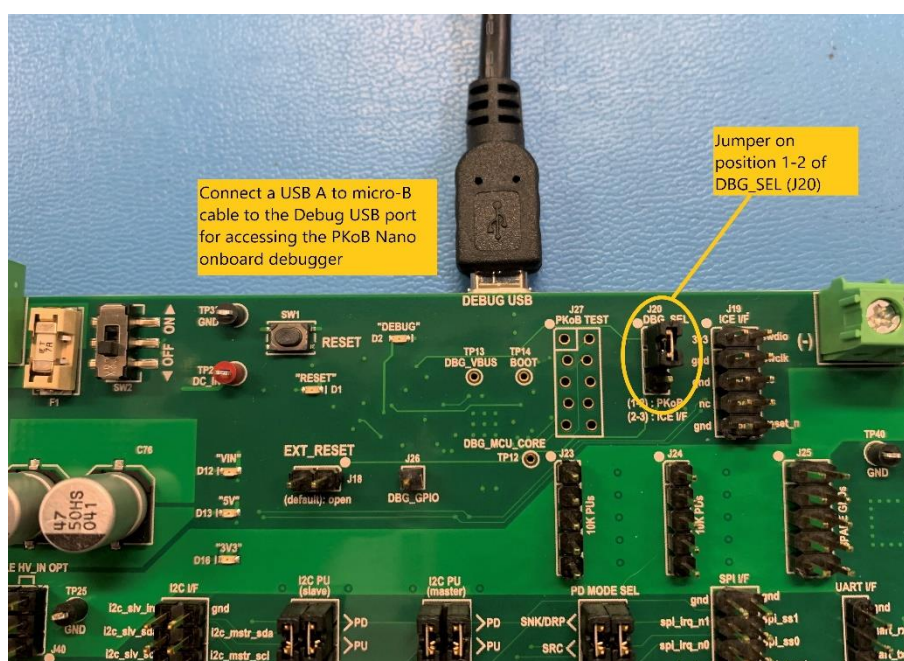

Fig 5.4 Connecting On Board Debugger
6. In Case if you are using Onboard Debugger ,Connect a USB Micro-B cable to “DEBUG USB” which on the top of the board and connect the other end USB Type-A to the laptop as shown in the Fig 5.4.